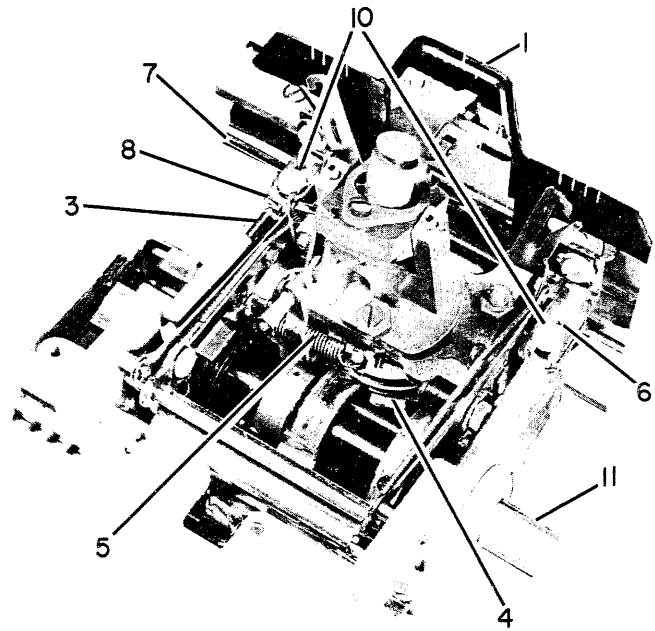

FIGURE 53. Carrier and Rocker Removal
2. Remove card holders (#1, Figure 53).
3. Disconnect ribbon lift spring (#3, Figure 53).
4. Release rotate spring tension (#4, Figure 53).
5. Remove tilt pulley spring (#5, Figure 53).
6. Remove tape anchor screw (#6, Figure 53).
7. Remove tapes (#7, Figure 53).
8. Remove tape wiper (#8, Figure 53) if present.
9. Remove escapement bracket mounting screws (#10, Figure 53).
12. Remove print shaft (#11, Figure 53).